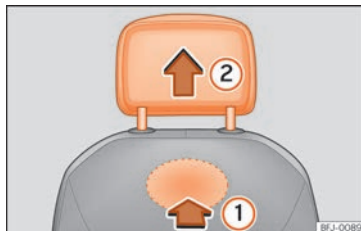

Fig. 68 Front head restraint: removal.
- To unlock it, look for the rabbit on the bottom of the backrest and press in the direction of the arrow >>> Fig. 68 ①.
- Remove the head restraint in the direction of the arrow ②.